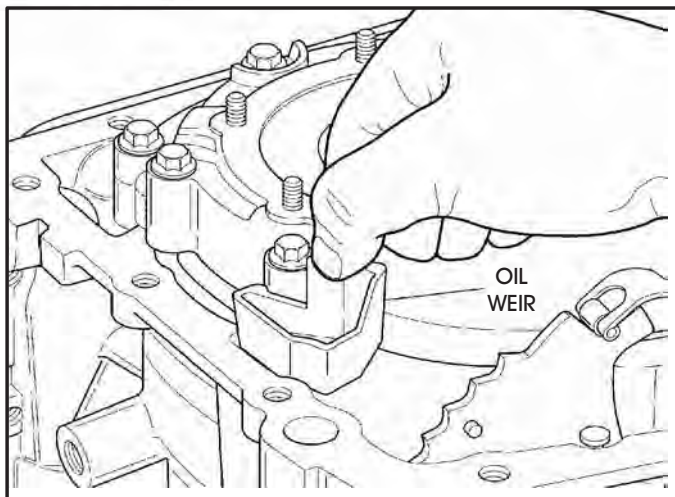

Figure 198
65. Install the oil weir into transaxle case, resting on top of the channel plate ledge, as shown in Figure 198.